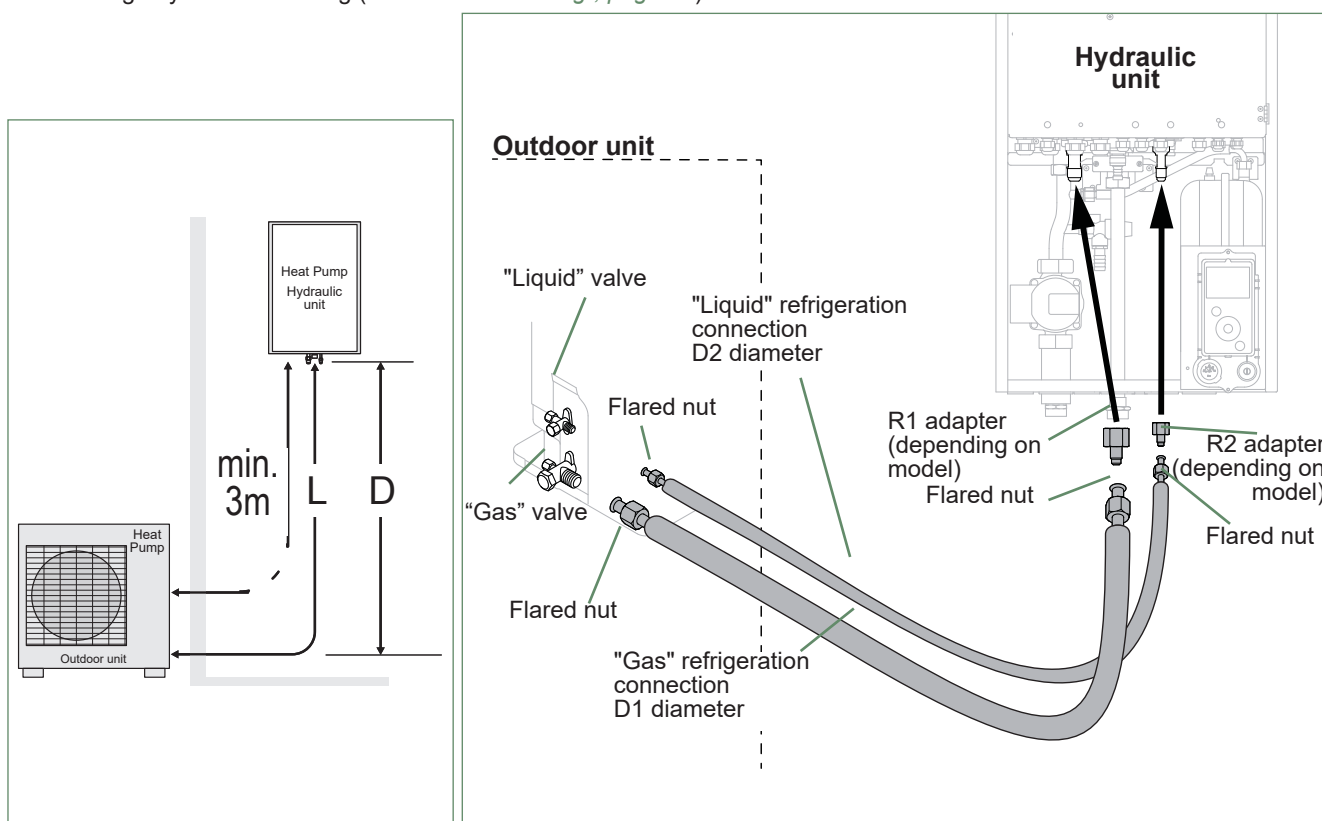

fig. 25 - Refrigeration connections (authorised diameters and lengths)
- Where necessary, connect an adapter (reducer) 1/4"- 3/8" or 1/2"- 5/8" (see *fig. 25*).